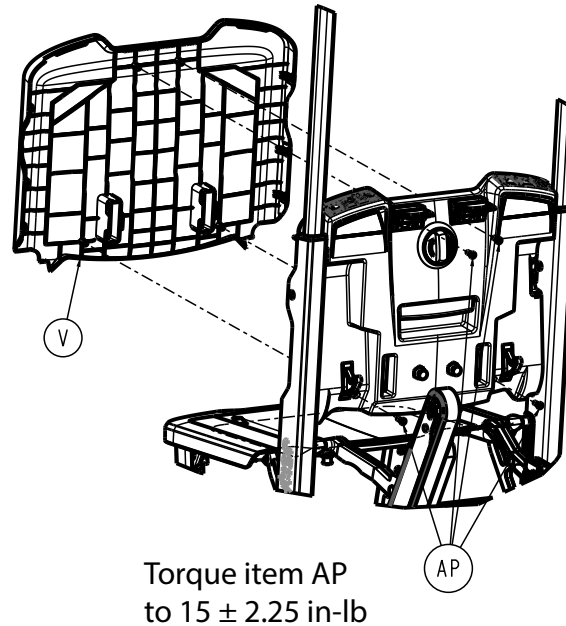

Figure 10 –
4. Using a T20 Torx driver, remove the two lower pan head thread forming screws (AP) that secure the backrest covers together (Figure 10). Save the screws.
6. Using a T20 Torx driver, remove the two upper pan head thread forming screws (AP) that secure the backrest covers together (Figure 10). Save the screws.
- Using a torque wrench, torque the pan head thread forming screws (AP) to 15 ± 2.25 in-lb when you reinstall.
7. Pull the top backrest cover (V) out and lift to remove (Figure 10). Discard the backrest cover.